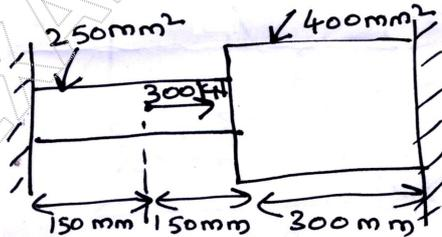

Fig.Q4(a)
- 4 a. Find the displacement, stresses and strains for a stepped bar as shown in Fig.Q4(a). Consider $E = 200 \text{ GPa}$.